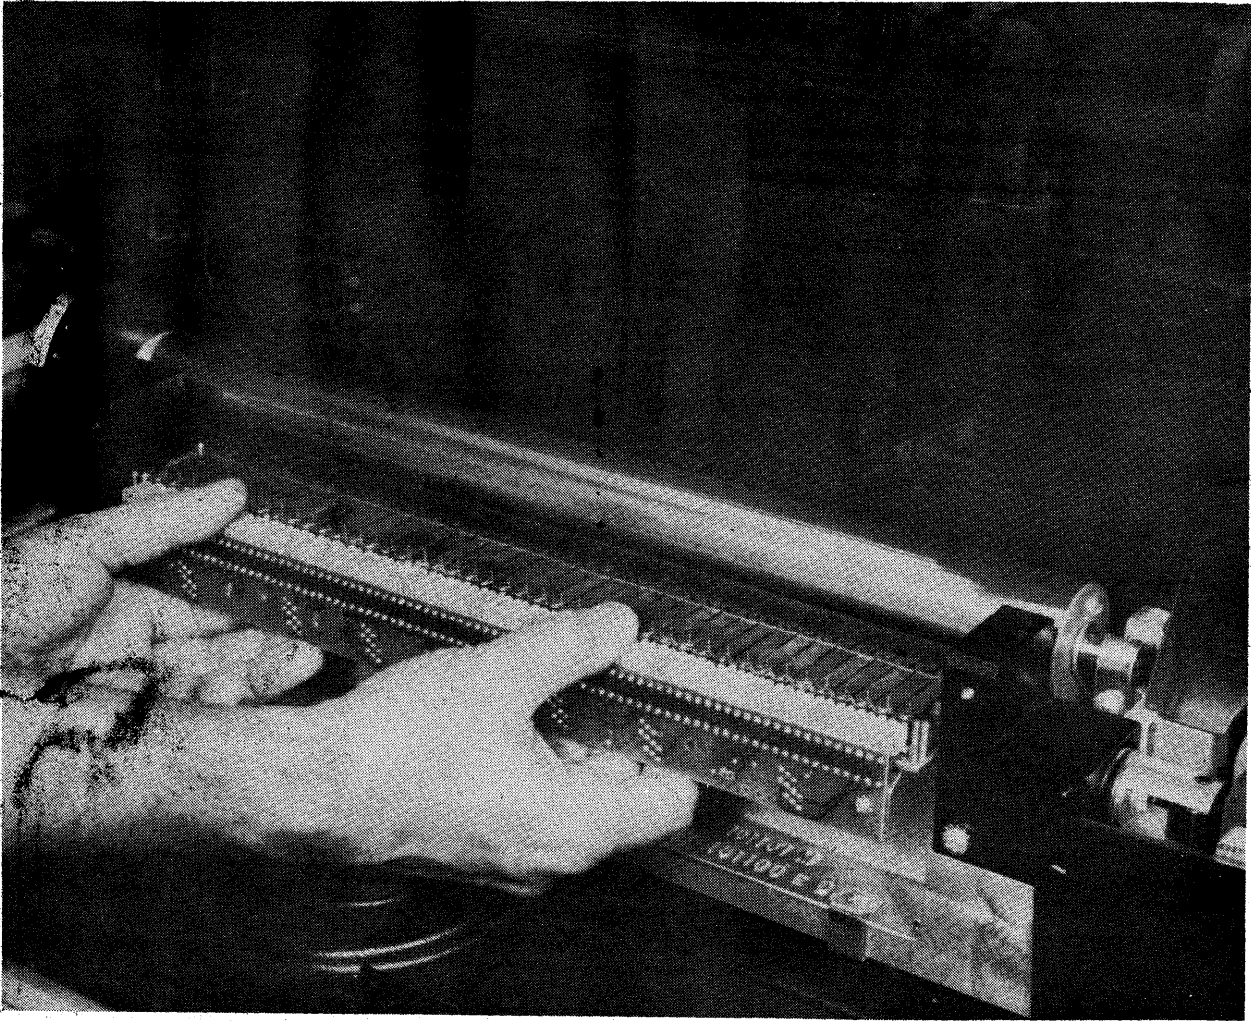

Figure 6-6. Hammer Bank Assembly in Open Position for Cleaning
- e. Grasp the hammer bank PCBA and pivot the hammer bank upwards, 90 degrees away from the platen (see Figure 6-6).